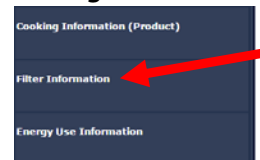

Figure 20
21. Clicking on Filter Information displays the Filters Completed and Filters Bypassed per vat (see Figure 20).